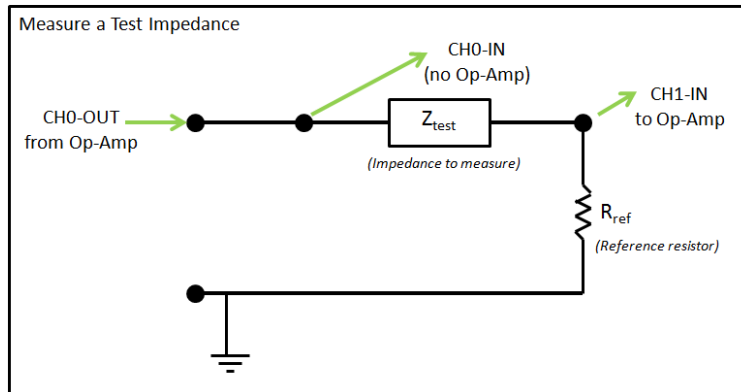

Figure 5: Circuit to measure a test impedance. The reference resistor R_{ref} should have an impedance magnitude similar to the test impedance.
2. Impedance-measurement circuit: Build the circuit shown in Figure 5, connecting to the op-amps and the MU box as shown in the diagram. To measure an impedance (V/I) we need to know the current, but the MU box measures voltages. Using a voltage divider with a reference resistor R_{ref} , you can calculate the current, and thus measure an unknown impedance Z_{test} .
- (a) Place a “test resistor” (of known impedance) in series with the reference resistor R_{ref} . Your test resistor should occupy the place of Z_{test} in Figure 5.
- (c) Use two inputs (into the MU-box), taken across the ‘test resistor’ terminals. CH0-IN should be connected to the “high” side of the speaker, and CH1-IN connected at the place where the speaker and reference resistor are joined, as described in Fig. 5.
NOTE: Every time you set up your lab circuit for the day, we suggest that you do a quick test with a resistor, as in Lab 1 (Fig. 5) to make sure everything is running properly!!!
- If you wish to measure a **current**, you will need a reference resistor of some sort (i.e. by measuring the voltage across a known resistor, you can calculate the current). This can be like your circuit in Fig. 5, or you can measure the voltage across a known resistor inside the 2-port you are trying to characterize
In this lab you will measure the electrical input impedance Eq. 1, where V is the voltage across the speaker and I is the current through it. The loudspeaker will be in **series** like your resistor from Lab 1, so you should connect the loudspeaker according to Figure 5. The loudspeaker has two terminals; when you swap the two terminals, the polarity of the acoustic signal will change. Note the red dot next to one of the terminals. Take this as the “+” terminal. So for some later experiments, this could make a difference in your results, but not for Lab 3.